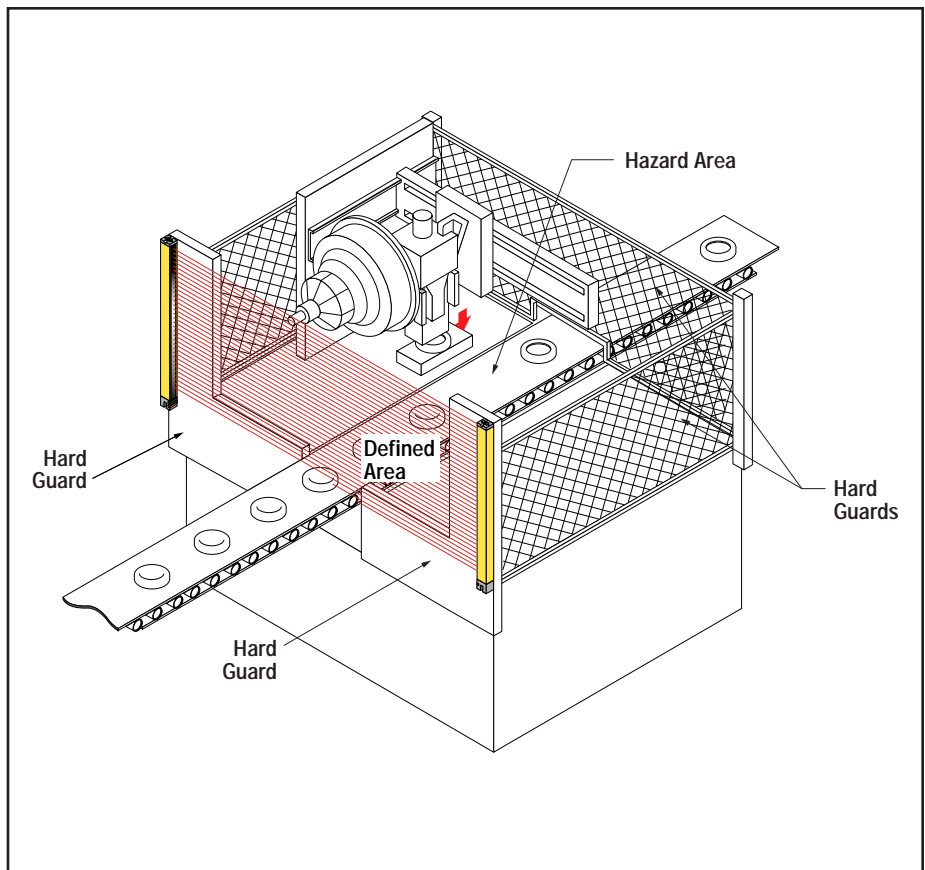

Figure 8. Example of hard guarding
ANSI B11.1-1988, 6.3.2 (14) requires that "all areas of entry to the point of operation not protected by the presence-sensing device shall be otherwise safeguarded." The hazard point must be accessible *only* through the defined area. This means that mechanical barriers (screens, bars, etc.), or supplemental presence sensing devices (*supplemental guarding*) must be installed, wherever needed, to prevent any person from reaching around, under, or over the defined area and into the hazard point. The use of mechanical barriers for this purpose is called "hard guarding" (see the WARNING at left and Figure 8, below).